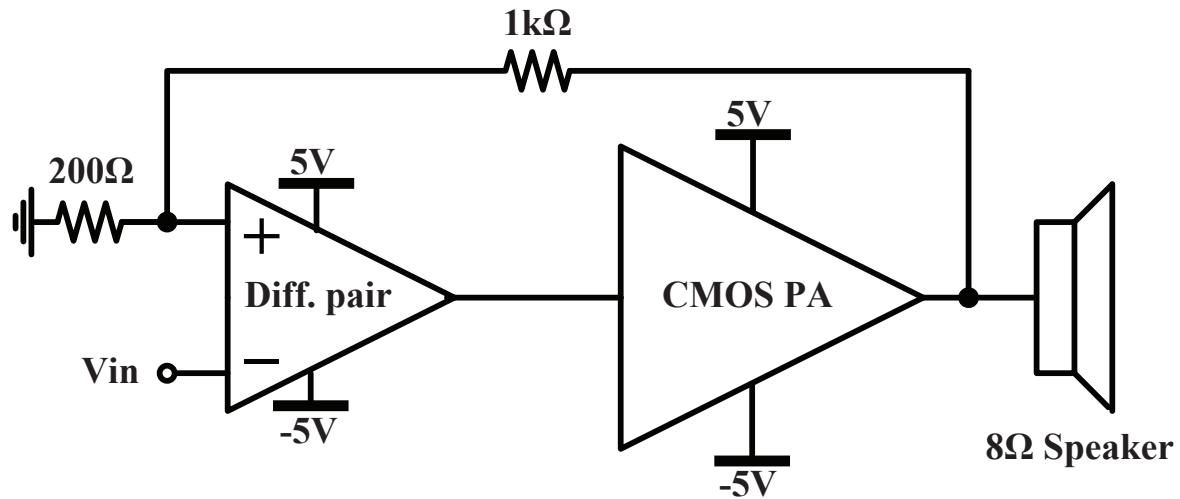
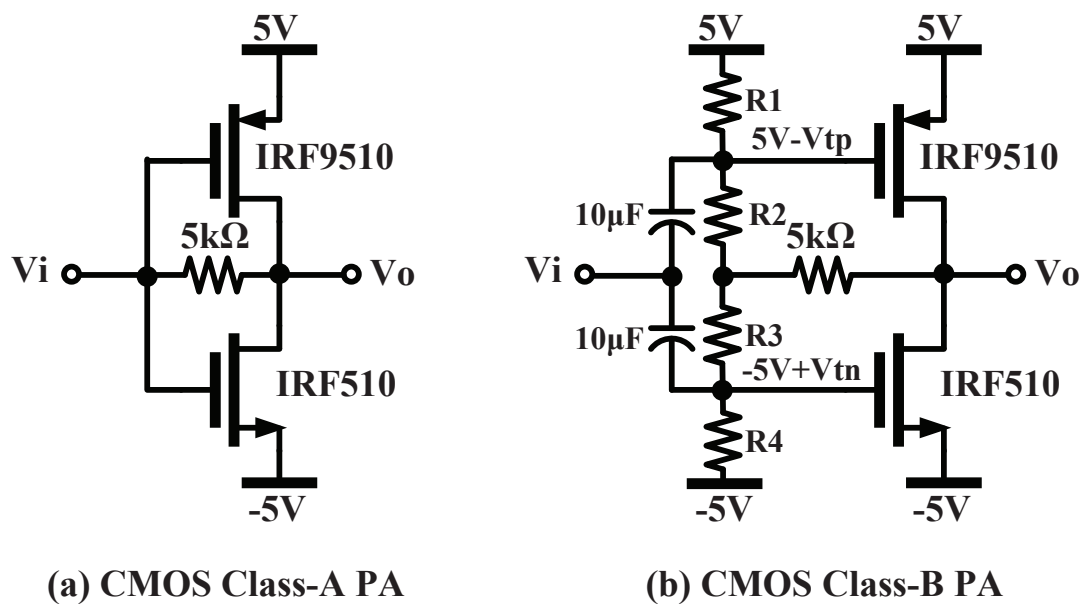
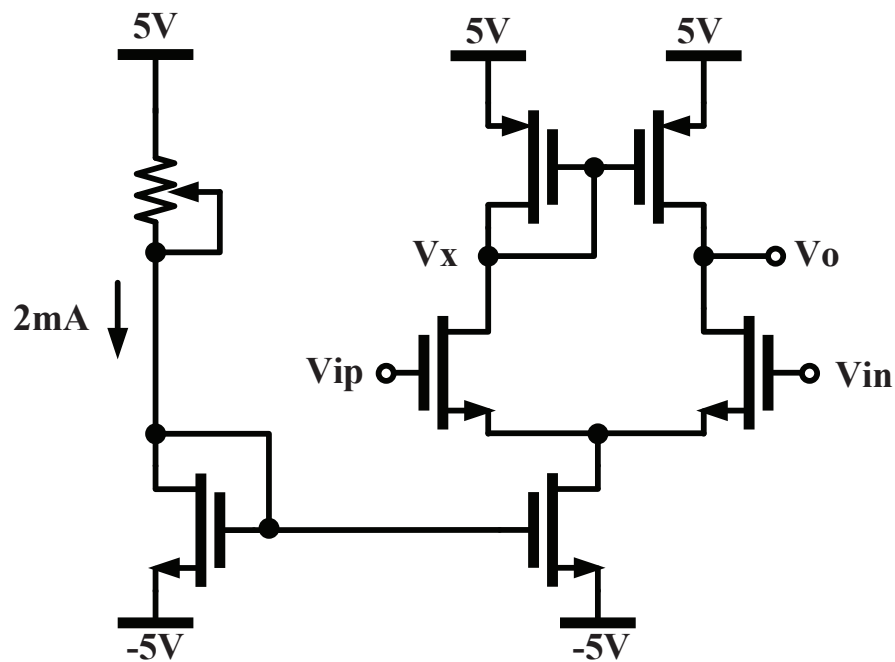

Figure 1: Audio power amplifier with feedback loop
Figure 2: CMOS output stages: a) Class A, b) Class B
Figure 3: Differential Pair
Class A PAs are linear but have poor efficiency. In contrast, class B PAs can have very high efficiency but they operate under strong nonlinearities. The linearity of a class B PA can be significantly improved by employing a negative feedback around the power amplifier as shown in Figure 1. The opamp acts as an error amplifier which samples a fraction of the output voltage (V_o) and amplifies the difference between it and the input voltage (V_i).
In this lab, you will simulate and test the Audio Power Amplifier with feedback shown in Figure 1. This system consists of a differential pair, similar to the one in Lab 4, as well as a CMOS PA (also called "output stage"). You will build first a Class-A and then a Class-B output stage as shown in Figure 2. Then, you will build the differential pair, as shown in Figure 3. Finally, you will build the feedback loop around the differential pair and Class-B PA. For the differential pair, you will use transistors ALD1101 and ALD1102 as in Lab 4, while for the CMOS PA, you will use power transistors IRF510 and IRF9510. The power transistors have large $V_{breakdown}$ and are able to sustain large currents and voltages ($> 10A, < 10V$) at their terminals. An $8\text{-}\Omega$ speaker is connected to the output to convert voltage to sound.
1. Run a 50-ms transient simulation for the Class-A output stage in Figure 2 (a) with 1-kHz $1\text{-}V_{pp}$ input. Show the input voltage and output voltage waveform. Set the maximum time step of the transient simulation to $1\text{ }\mu\text{s}$. Plot the output spectrum using the FFT function of the simulator. Find the power consumption of the amplifier when the input signal amplitude is 10mVpp and when it is 1Vpp.
2. Repeat step 1 for the Class-B output stage in Figure 2 (b). Use the value for R_1 , R_2 , R_3 , and R_4 determined in lab 3 such that both the p-MOSFET and the n-MOSFET are biased at threshold (little or no current flowing through them).
3. Determine the gain of the amplifier in Figure 1. What happens to the volume that the speaker would produce when the $1\text{-k}\Omega$ feedback resistor value is varied?
4. The schematics in Figures 2 (a) and (b) use two supplies, 5V and -5V. This arrangement centers the output at 0V and allows us to DC couple the output stage directly to the speaker.
5. Build the linearized power amplifier with feedback in Figure 1 with the class B output stage and set the voltage gain to 4 (by adjusting the $1\text{-k}\Omega$ resistor). Replace the 8Ω load resistor with the speaker. Connect your Class A output stage and apply a sound waveform (from your cellphone or iPod) at the input. Observe the sound quality.